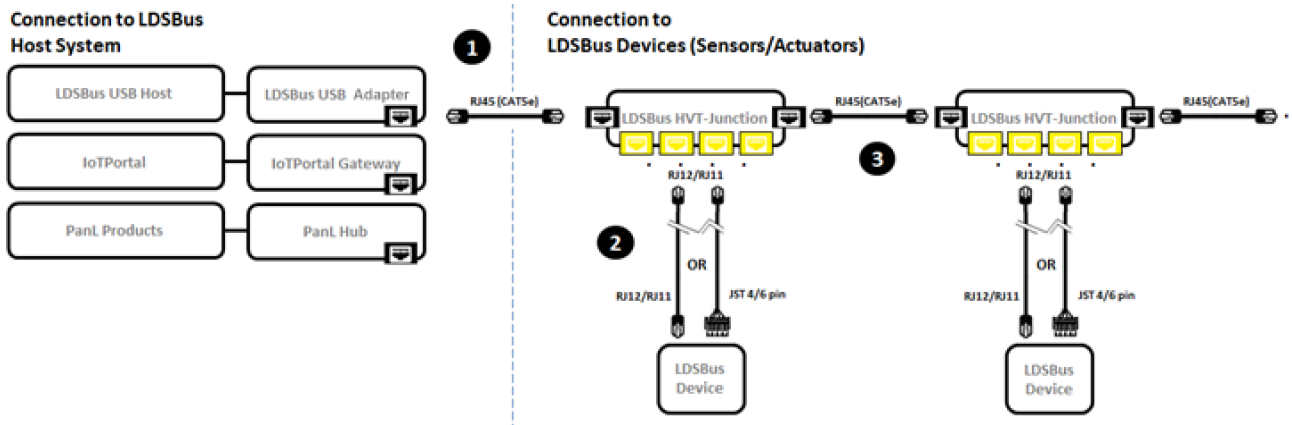

Figure 2 - LDSBus pH Sensor Adapter to LDSBus - Connection Diagram
Figure 2 illustrates the connection of the LDSBus pH Sensor Adapter (LDSBus Device) to the LDSBus. Please visit <https://brtsys.com/resources> to view the full device application, setup, and installation guides.
2. Connect the configured LDSBus pH Sensor to the LDSBus HVT-Junction as shown in Figure 2.
3. If there is more than one LDSBus HVT-Junction, chain them together as shown in Figure 2.